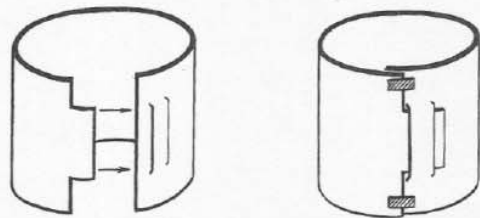

Figure 1
- Insert the tongue of the cardboard duct into the slots at the opposite end to form a tube. (Figure 1) Place tube into duct port and expand to its full diameter. Cut off two short pieces of gasket tape material approximately 1" long, strip off backing and press onto tube seams near the top and bottom edges to prevent it from coming apart.